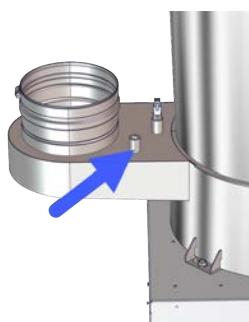

Figure 55 Flue gas test port
3. When the boiler reaches high fire, insert the combustion analyzer test probe into the flue gas test port (see Figure 55).